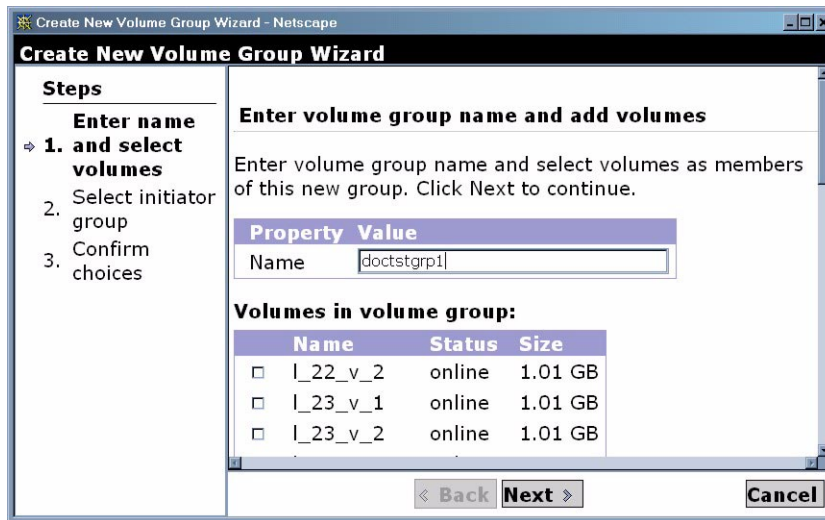

FIGURE 6-16 Create New Volume Group Wizard Page
7. Click on Create and the Create New Volume Group Wizard is displayed in a new window as shown in FIGURE 6-16.